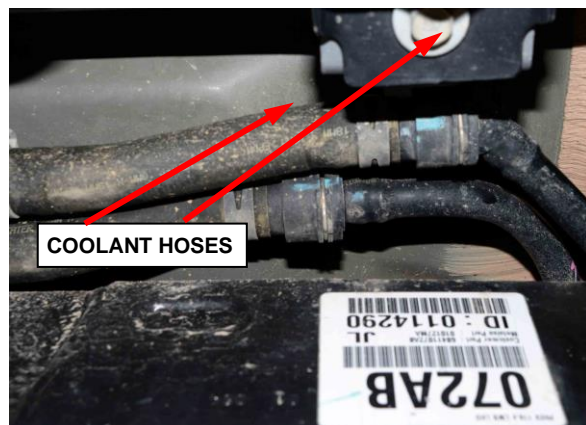

Figure 6 – Coolant Hoses
23. Position a drain pan under the coolant hoses (Figure 6).
24. Remove the coolant hoses from the coolant line and drain the power electronics cooling system (Figure 6).
25. Once the system is completely drained, reinstall the coolant hose to the coolant line (Figure 6).